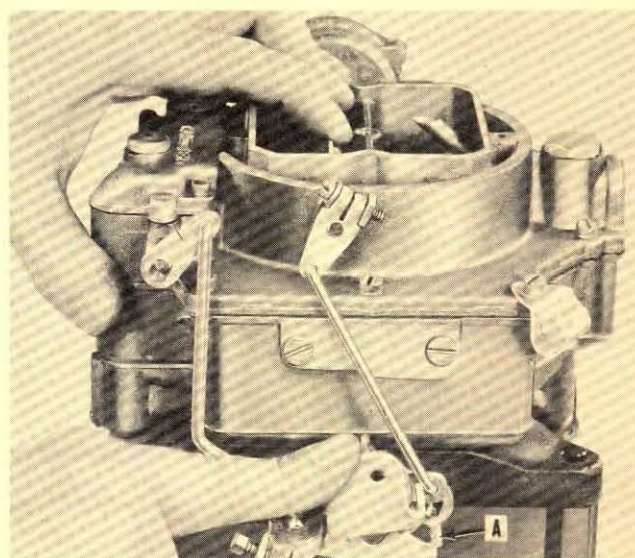

Fig. 18
B. Hold choke valve in wide open position. Open primary throttle valves all the way. With carburetor in upright position, the lock-out lever should fall free allowing secondary throttle valves to be opened before primary throttle valves are fully open. If necessary, bend tang, "A" Fig. 18, on secondary throttle lever to provide clearance for proper operation of lock-out lever.